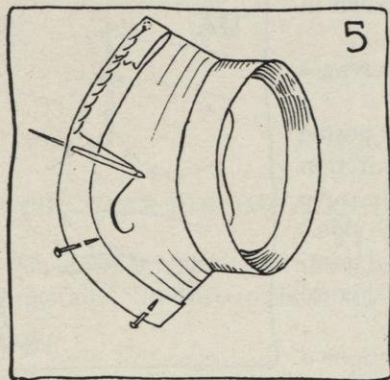
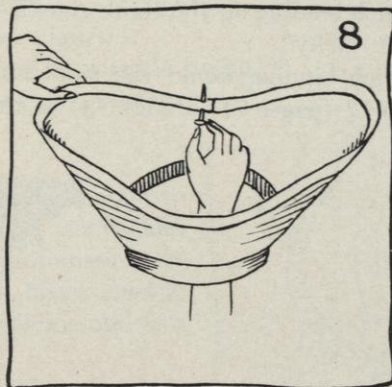

FIG. 5.
FIG. 8.
sewing (see Figure 5) until you reach the starting point. See working drawing of back-stitching in Figure 8, Job 16 (page 69).
- Put a pin in the lap, so that it will lie smooth and so that no raw edges will show (see Figure 8).